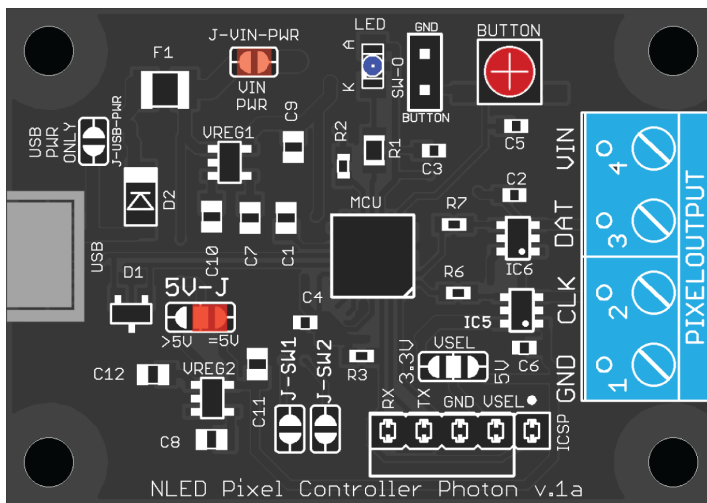

Fig. 15A
1. Power from an external 5 volt power supply connected to PIXELOUTPUT: Close J-VIN-PWR, close 5V-J to '=5V'. Leave J-USB-PWR open. See Fig. 15a